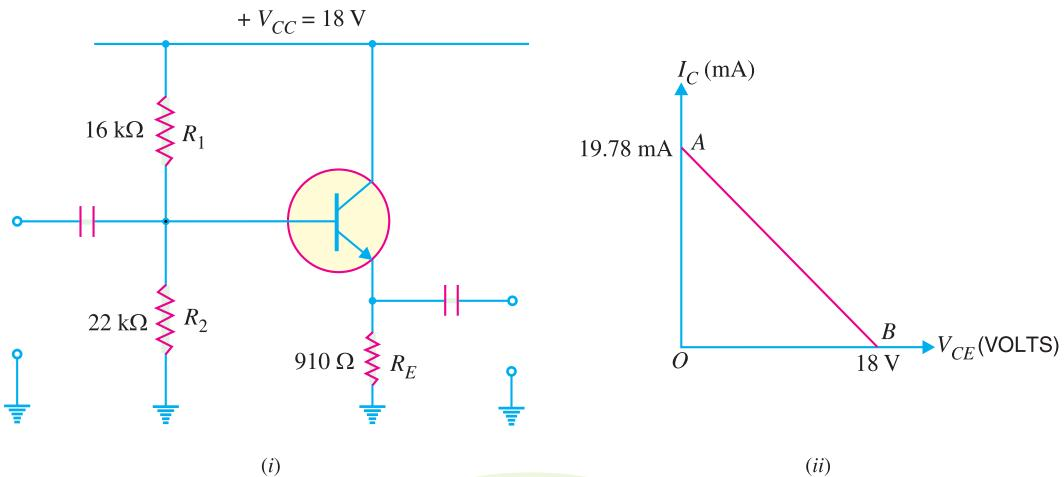

Fig. 13.14
**Example 13.19.** For the emitter follower circuit shown in Fig. 13.14 (i), find  $V_E$  and  $I_E$ . Also draw the dc load line for this circuit.
By joining points  $A$  and  $B$ , d.c. load line  $AB$  is constructed [See Fig. 13.14 (ii)].